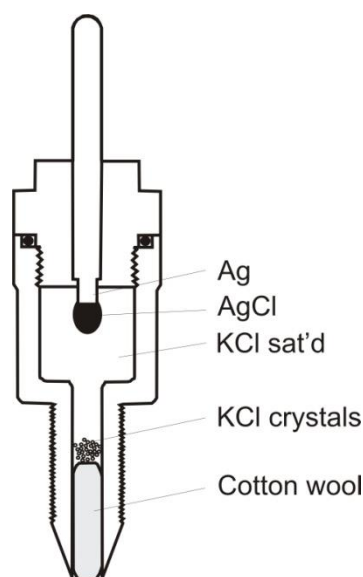

Fig. 8. Schematic representation of the Ag/AgCl reference electrode.
3. Apply a few drops of slurry on the wetted polishing disc, and polish the electrode with a 'figure 8' motion for about one minute. Apply only gentle pressure.